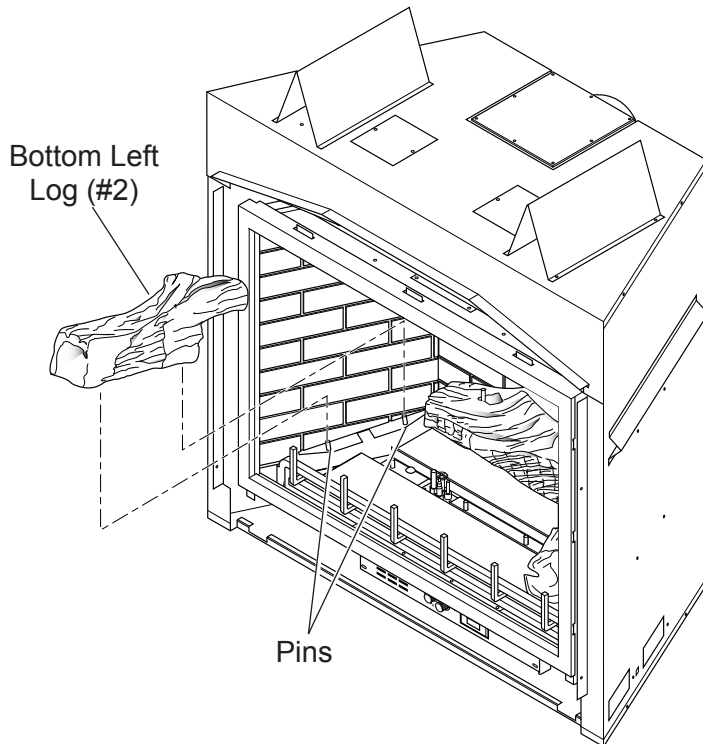

Figure 44 - Installing Bottom Left Log (#2)
5. Place bottom left log (#2) on two pins against left side of firebox. See Figure 44.